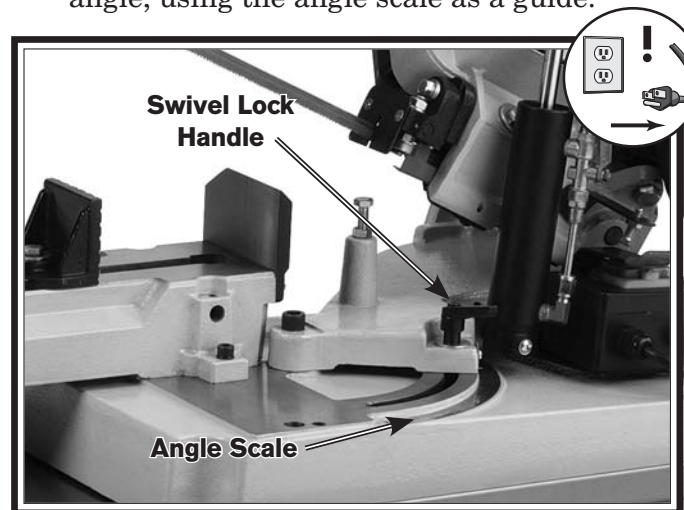

Figure 38. Swivel base.
2. Loosen the lock handle shown in **Figure 38**, then swivel the headstock to the desired angle, using the angle scale as a guide.
6. Loosen the lock handle shown in **Figure 38**, then swivel the headstock to the desired angle, using the angle scale as a guide.